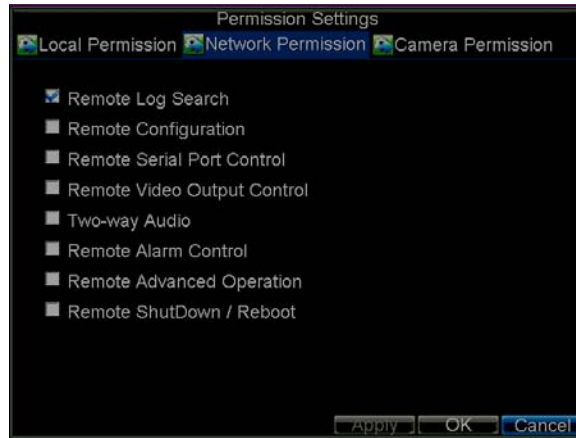

Figure 7. Network Permission Settings Menu
7. Click on **Network Permission** tab to configure network permission settings, as shown in Figure 7. The network settings include: